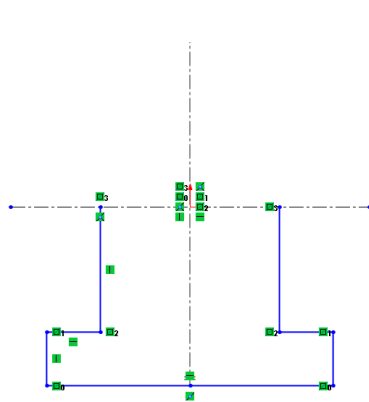

Figure 3-63 Sketch after drawing the lines
- Create the sketch in the third quadrant; the sketch will automatically be mirrored on the other side of the mirror line, refer to Figure 3-63.
7. Move the line cursor vertically upward and click to specify the endpoint of the line when the line cursor snaps the horizontal centerline. Exit the **Line** tool. The sketch after drawing the lines is shown in Figure 3-63.